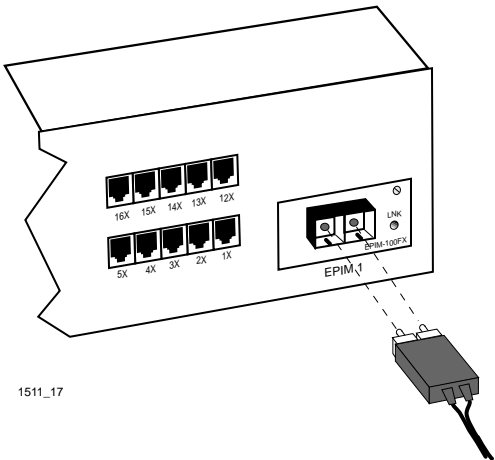

Figure 5-3 EPIM-100FX Port
The EPIM-100FX has an SC style network port (see Figure 5-3). Cabletron Systems supplies fiber optic cables using SC connectors that are keyed to insure proper crossover of the transmit and receive fibers.
- 2. Insert one end of the SC connector into the EPIM-100FX on the SEHI. See Figure 5-3.